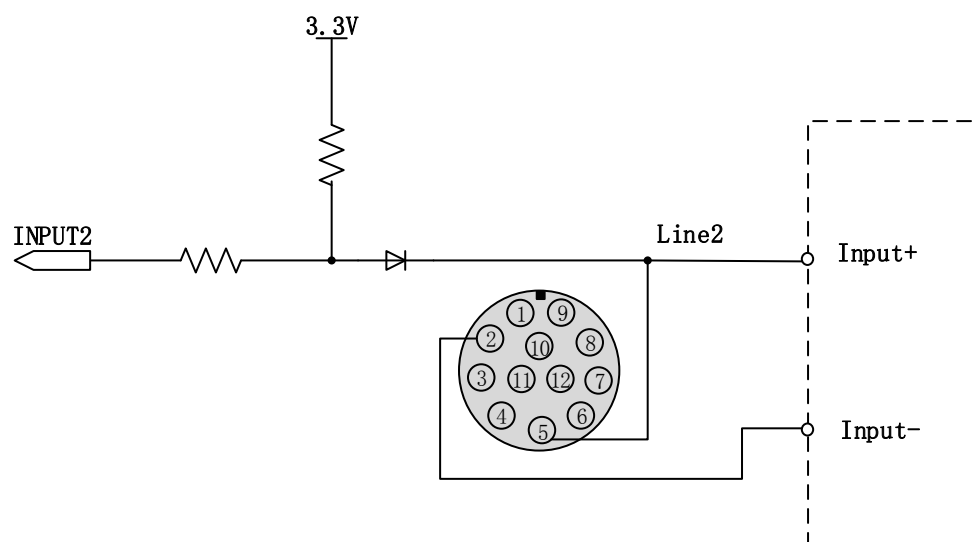

Figure3- 6: Internal equivalent circuit of camera when Line2 is configured as input
- When Line2/3 is configured as input, the internal equivalent circuit of camera is shown in Figure3- 6, taking Line2 as an example.